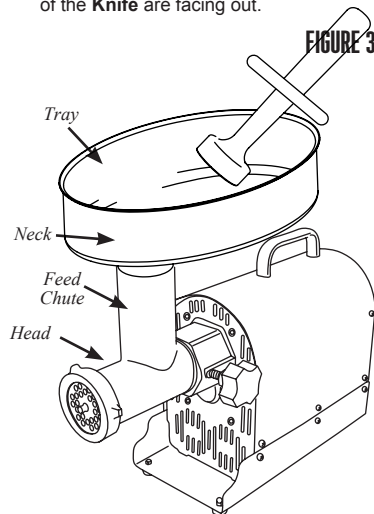

FIGURE 3
7. Insert the neck of the Tray into the Feed Chute (FIGURE 3).
8. NEVER operate Grinder without the Tray secured in place (FIGURE 3). REFER TO "GRINDING INSTRUCTIONS"